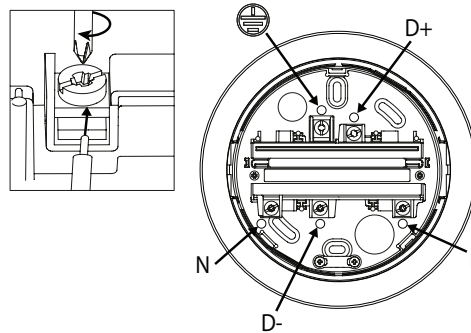

Figure 4
4. Using your Phillips Screwdriver, attach the wires to there correct location. **Figure 4**
4. Wire the Power and Data to the Terminal on the Monopoint Ceiling Adapter per **Figure 4**